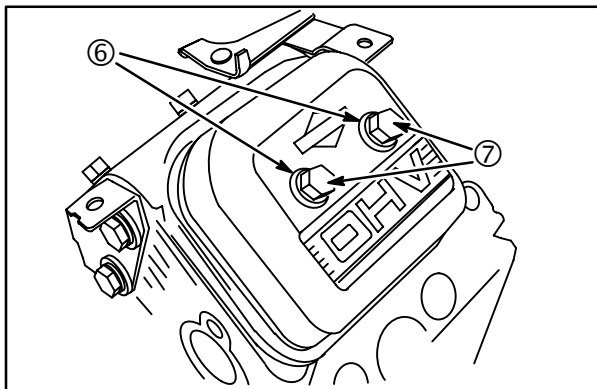

Fig. 14
2. Install valve covers with new gaskets and valve cover seals (6), **Fig. 14**. Torque nuts (7) to **25 in. lbs. (3 Nm)**.